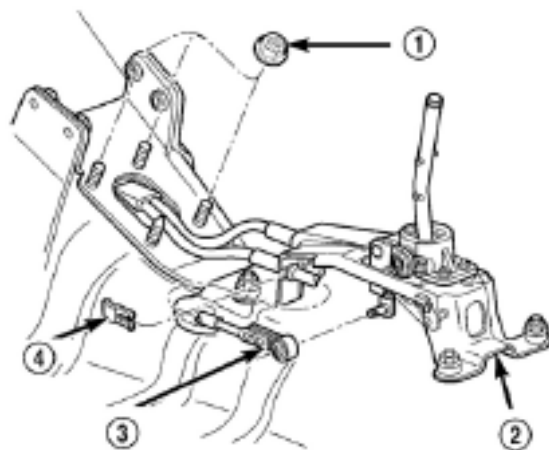

Figure 3-153 Switching cable on the shift base
- (4) Pick off the switching cable clamp and remove switching cable from the shift lever (Figure 3-153).
- (3) Assemble the shift shaft assembly on the shifting support and mount the fixing clip (Figure 3-153).